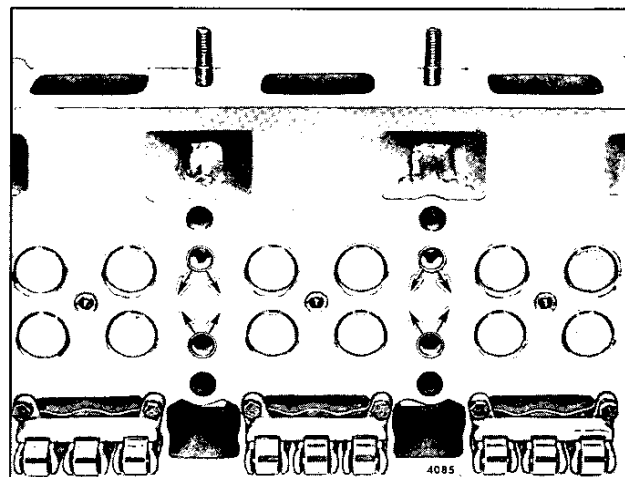

Fig. 5 - Correct Installation of Water Nozzles in Four-Valve Cylinder Head
- c. Press the nozzles in place with the nozzle openings positioned as shown in Fig. 5. Press the nozzles flush to .0312" recessed below the surface of the cylinder head.